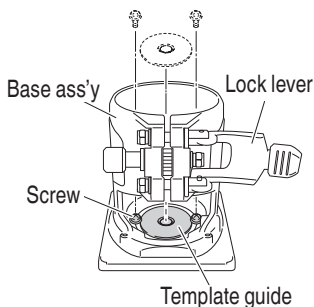

Fig. 15
- (1) Remove the base ass'y from the main unit.
(2) Install the template guide in the recessed part of the base ass'y and secure it with two screws. (Fig. 15)